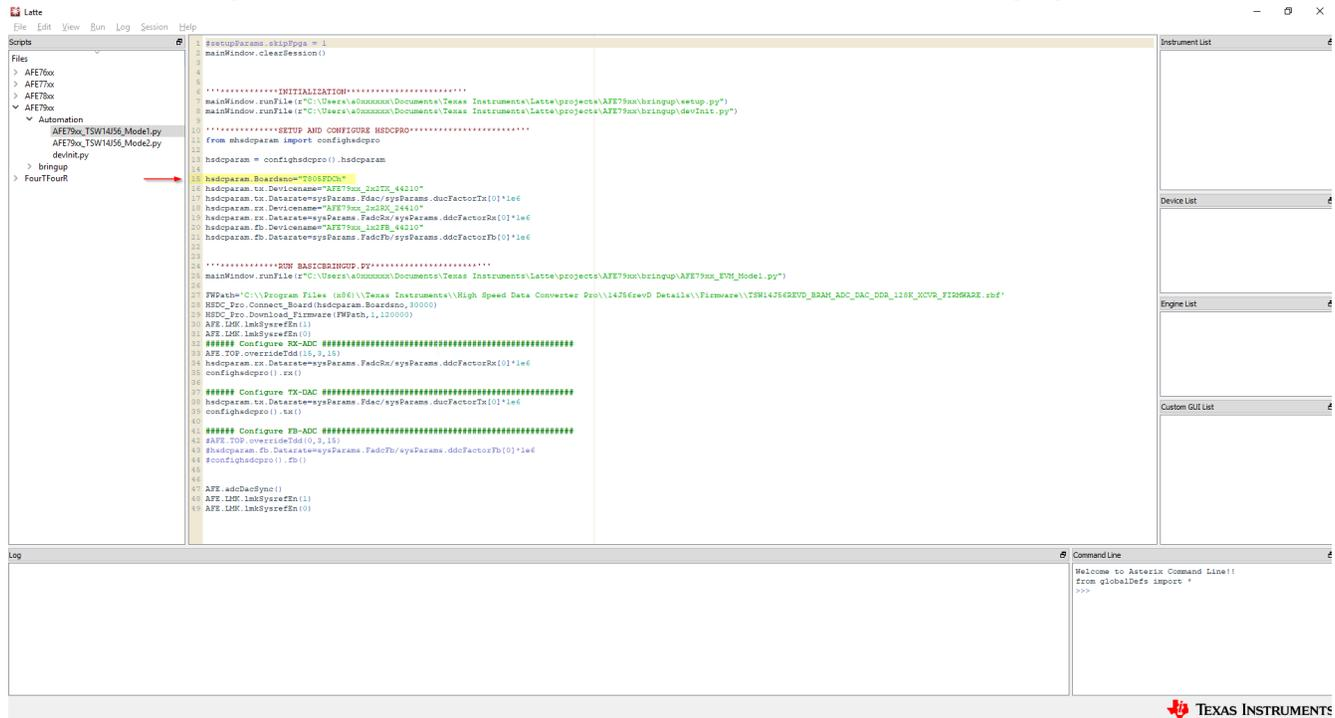

Figure 4-5. TSW14J56 EVM Serial Number Location
8. As shown in Figure 4-5, enter the serial number of the TSW14J56 EVM per the highlighted location in .